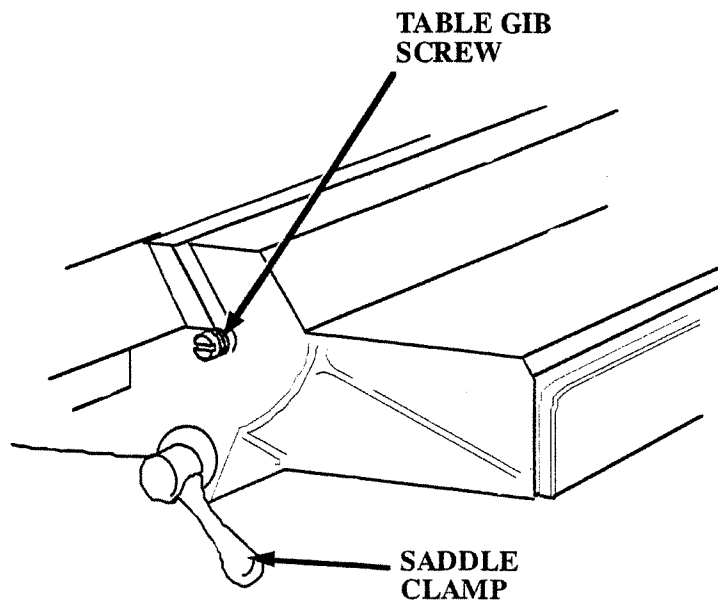

Figure 9-9. Adjustment of Table Gib
9.9 ADJUSTMENT OF TABLE GIB (Figure 9-9)